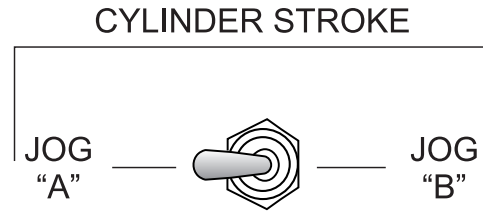

Figure 54. Manual Cylinder Jogging Switch
2. Place and hold the **manual cylinder jogging switch** (Figure 54) to either **JOG "A"** or **JOG "B"** position to test the pressure of that cylinder.